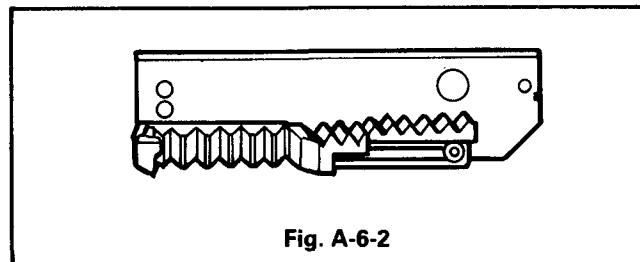

Fig. A-6-2
- ① Turn the Drive Gear Assembly in the direction of arrow (C)
- ② Reassemble the Rack Gear N D to the Side Bracket Assembly, as shown in Fig A-6-2, and then reassemble